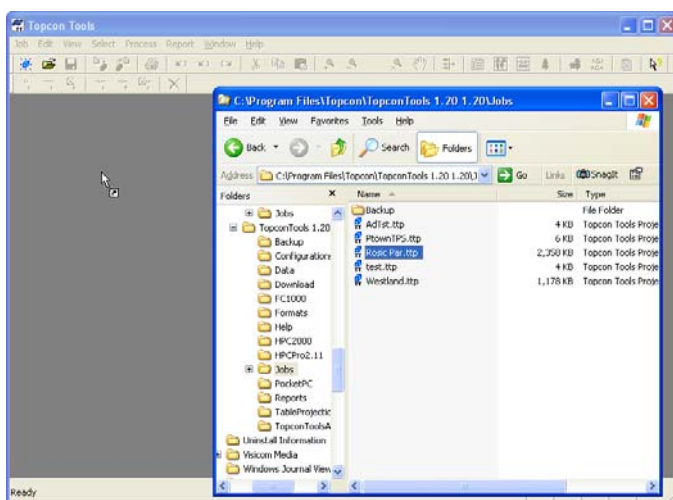

Figure 1-13. Open File Using Drag-and-drop
3. Drag-and-drop the file(s) to the open Topcon Tools software (Figure 1-13).